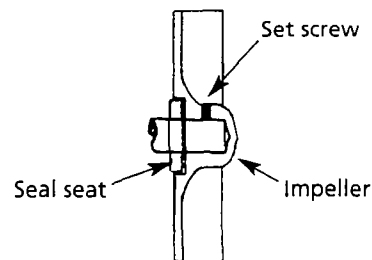

Figure 4 – Mechanical Seal
3. Pry the ceramic portion of the seal seat (Ref. No. 4) from the impeller recess with a small screwdriver. Now remove the rubber portion of the seal seat from the same recess (See Figure 4).